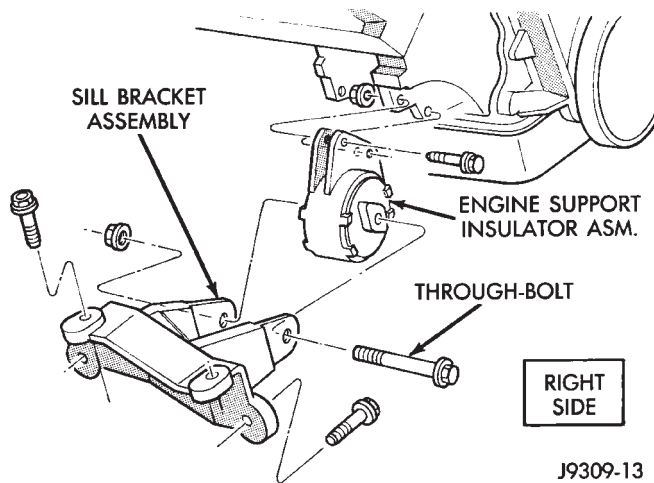

Fig. 4 Engine Front Mount (Right Side)
- (3) Install engine lifting fixture.
- (4) Raise vehicle on hoist.
- (5) Remove the engine support bracket through-bolts (Figs. 4 and 5).
- (6) Raise engine with lifting fixture *SLIGHTLY*. Remove the engine support insulator assembly bolts. Remove the engine support insulator assembly.
(a) **RIGHT SIDE**—Install the sill bracket assembly onto the sill assembly (Fig. 4). Install and tighten the bolts to 54 N•m (40 ft. lbs.) torque.
(2) With the engine raised *SLIGHTLY*, position engine support insulator assembly onto the engine block (Figs. 4 and 5). Install bolts and tighten to 88 N•m (65 ft. lbs.) torque.
(3) Lower engine with lifting fixture while aligning engine support insulator assembly into sill bracket assembly.
(4) Install the through-bolt and tighten the nut to 65 N•m (48 ft. lbs.) torque.
(5) Lower the vehicle.
(6) Remove lifting fixture.
(7) Connect the negative cable to the battery.